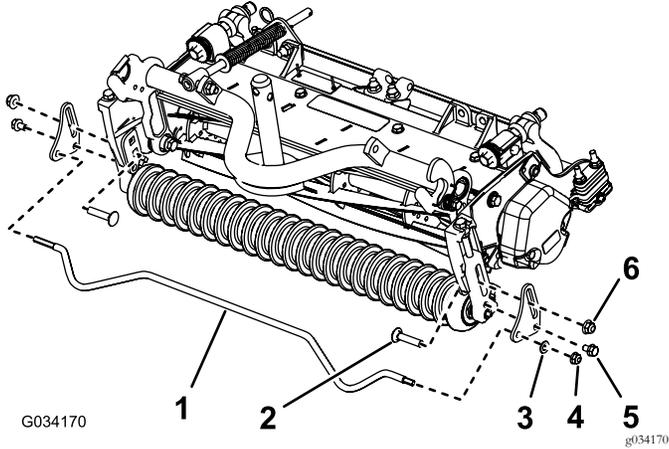

Figure 10
1. Install a basket plate on each side of the cutting-unit frame using 1 flange nut (3/8 inch), 1 carriage bolt (3/8 x 1-3/4 inches), and 1 flange screw (5/16 inch); refer to Figure 10.
2. Insert the long hexagonal end of the basket rod into 1 basket plate and the other end into the other basket plate (Figure 10).
3. Secure the short hexagonal end of the rod with a flange nut (5/16 inch) and a hardened washer (Figure 10).